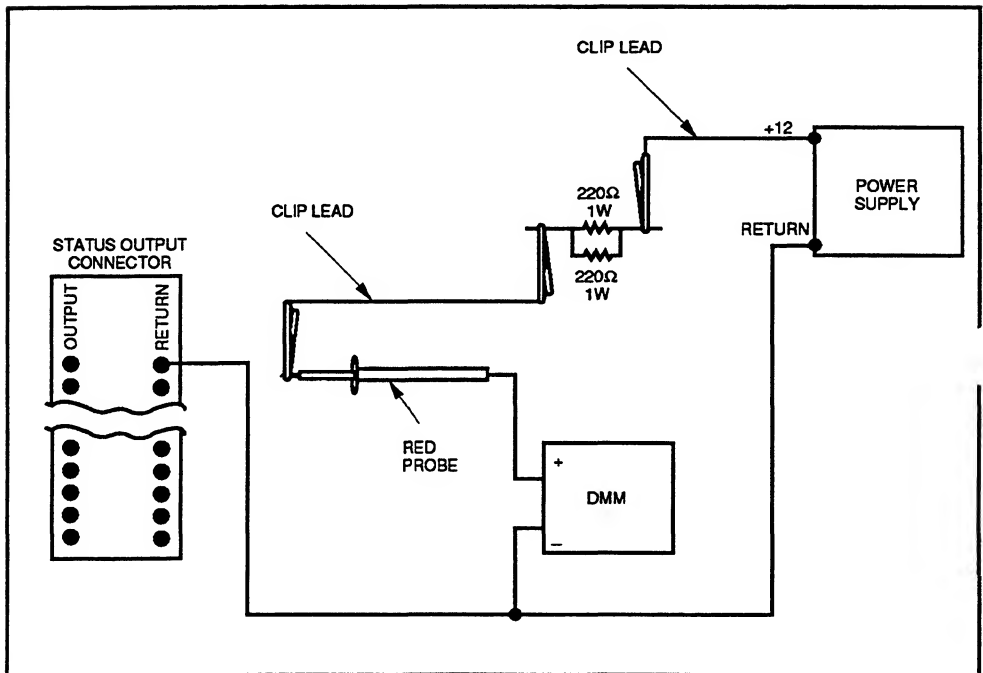

Figure 2A-7. Interconnecting Output Test Equipment
7. Testing the output drive capability of each channel requires an external voltage source, a current limiting/pull-up resistor, and a DMM, interconnected as shown in Figure 2A-7 and described below: